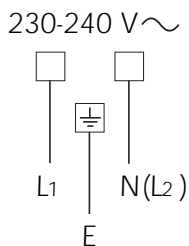

Fig. 1.1
- The new supply cable, of suitable type and section, is connected to the terminal board following the diagram fig. 1.1.